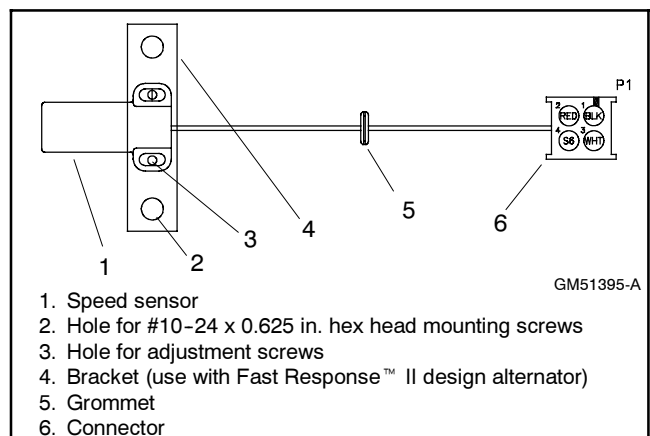
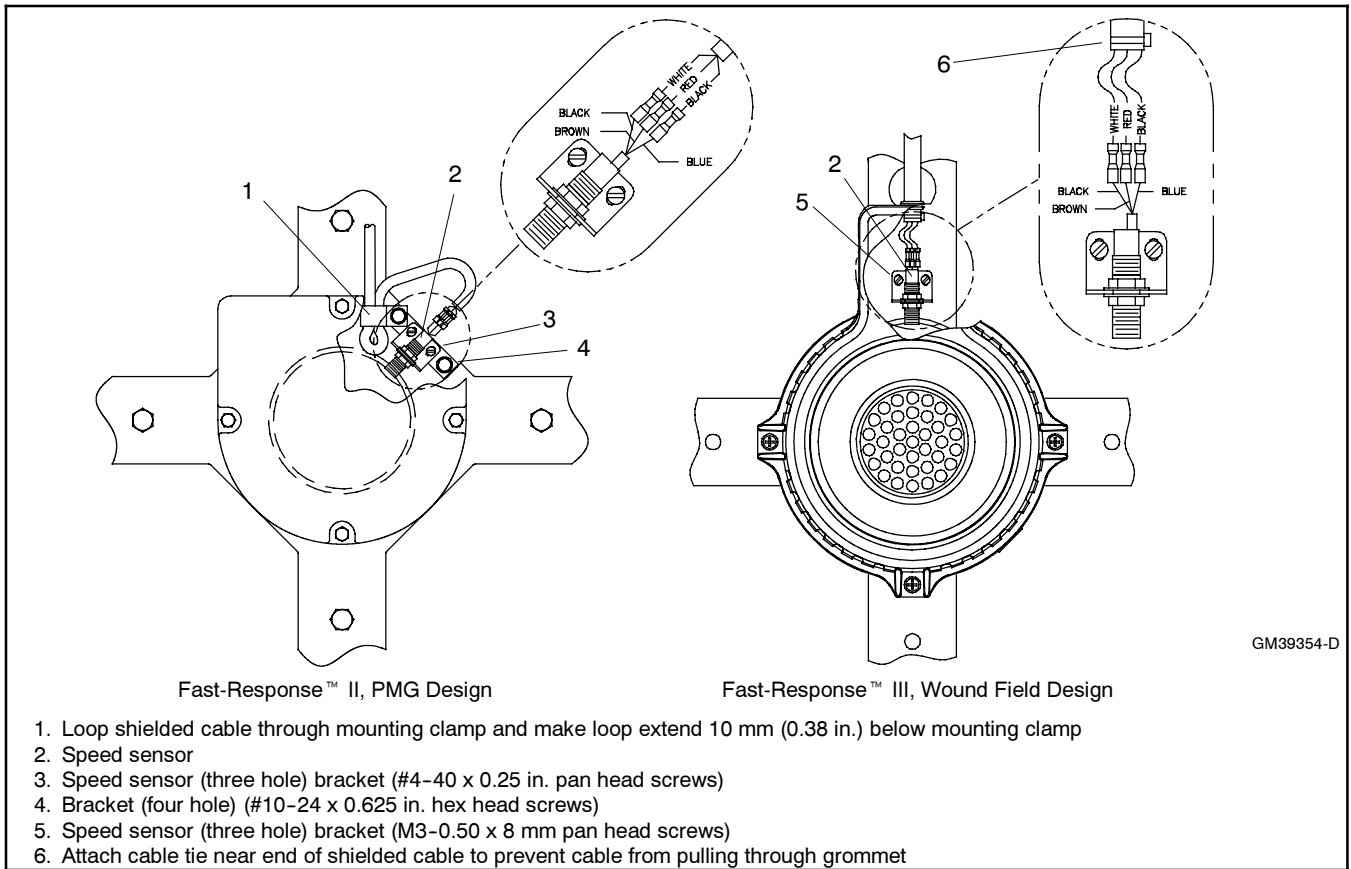
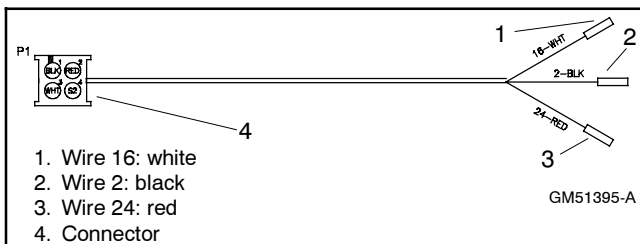
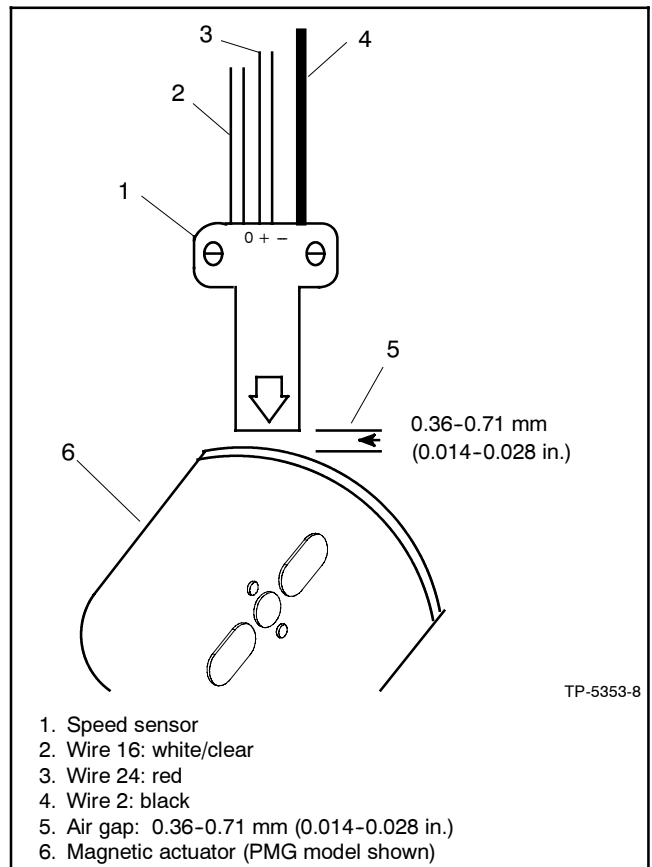

Figure 8-50 Speed Sensor GM51395
Figure 8-51 Existing Speed Sensor and Mounting Designs
Figure 8-52 Speed Sensor Harness GM70485
Figure 8-53 Speed Sensor Air Gap
- f. If the unit has the Fast Response™ II design alternator, remove the four-hole flat bracket. The four-hole flat bracket will not be reused. Save the screws and mounting clamp (Figure 8-51, Item 1) that is securing the speed sensor wiring as these parts will be reused.
- a. If the unit has the Fast Response™ II design alternator, mount the new bracket (Figure 8-50, Item 4) from the speed sensor kit and replace the existing mounting clamp (Figure 8-51, Item 1) securing the speed sensor wiring harness to the generator set end bracket using the original screws.
- d. Match the wire colors (white, black, and red) and crimp the stripped wire ends to the speed sensor harness GM70485. See Figure 8-52.
- e. Plug the speed sensor connector (Figure 8-50, Item 6) in the speed sensor harness connector (Figure 8-52, Item 4). Each connector is keyed to mate only one way.
- f. Loosen the adjustment screws (Figure 8-50, Item 3) and adjust the air gap using a feeler gauge and specifications from Figure 8-53. Final tighten the adjustment screws.
- g. Position the grommet (Figure 8-50, Item 5) to align with the notch in the LED circuit board cover (FR™ II) or rotating rectifier assembly cover (FR™ III).